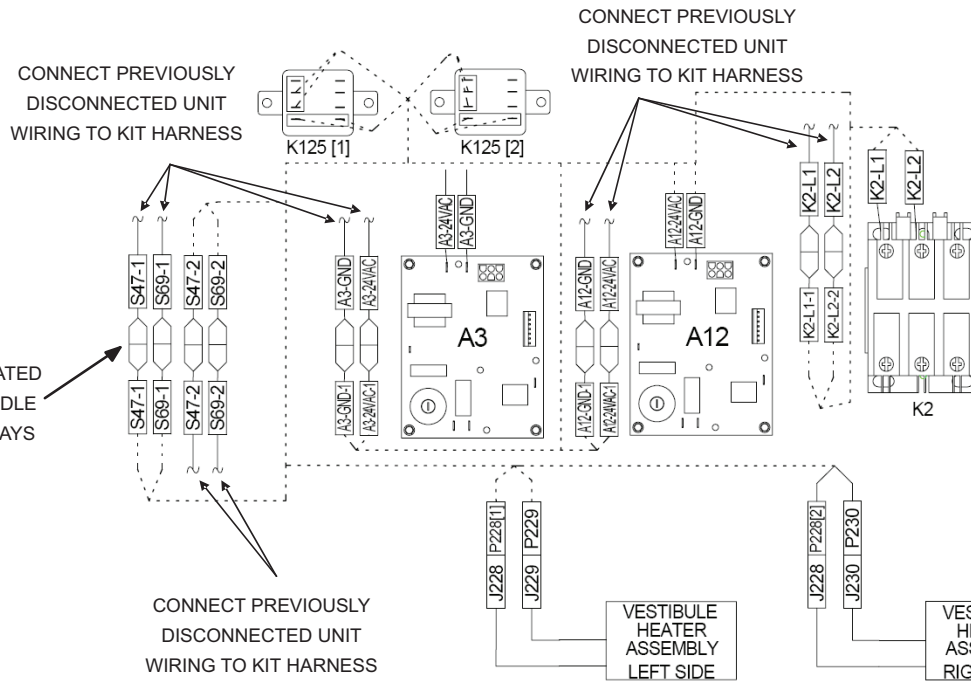

FIGURE 18
- 5 - Make wire connections as shown in FIGURE 18.